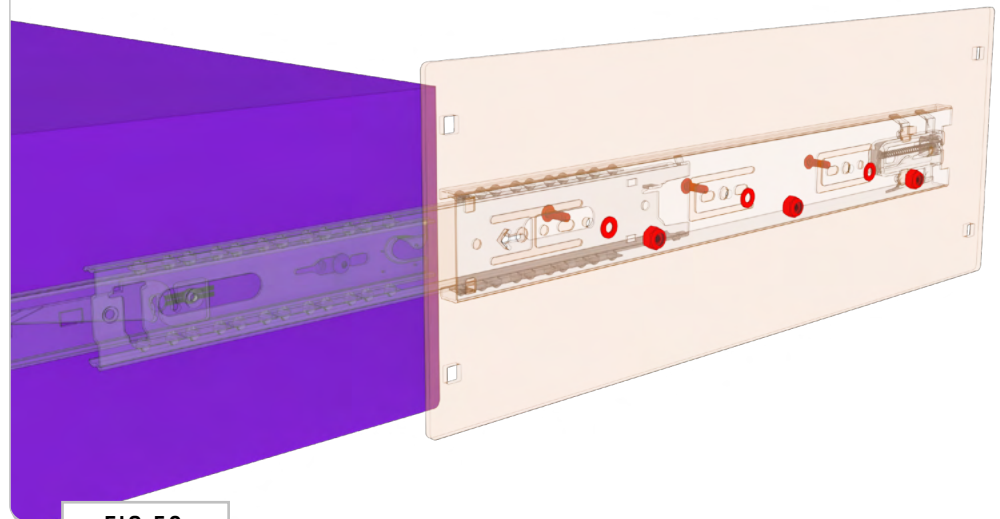

FIG 56
**3.11 Attach Drawer Assembly to Drawer Cover Plates:** Slide out the **Drawer Slides** to expose the mounting holes that will be used to attach the **Drawer Assembly** to the **Drawer Cover Plates**. Support the **Drawer Assembly** with help or a table of appropriate height and secure using (3ea) 8-32 x 0.5 Button Head Screws, Flat Washers and Nylon Locknuts (FIG 56).